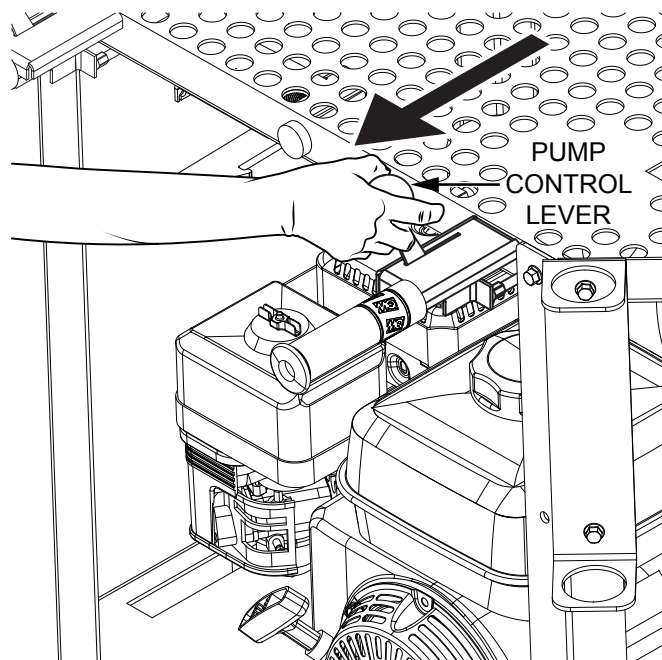

Figure 34. Disengage Pump
- Slide the pump control lever sideways to unlatch, then pull back on the lever to disengage the pump (Figure 34).